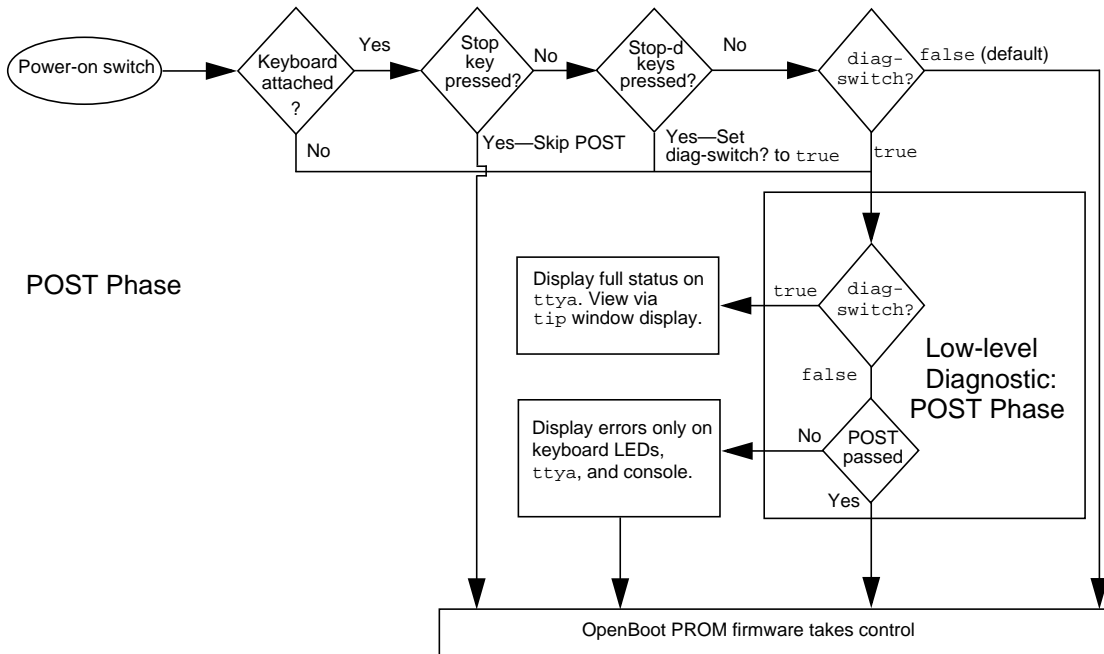
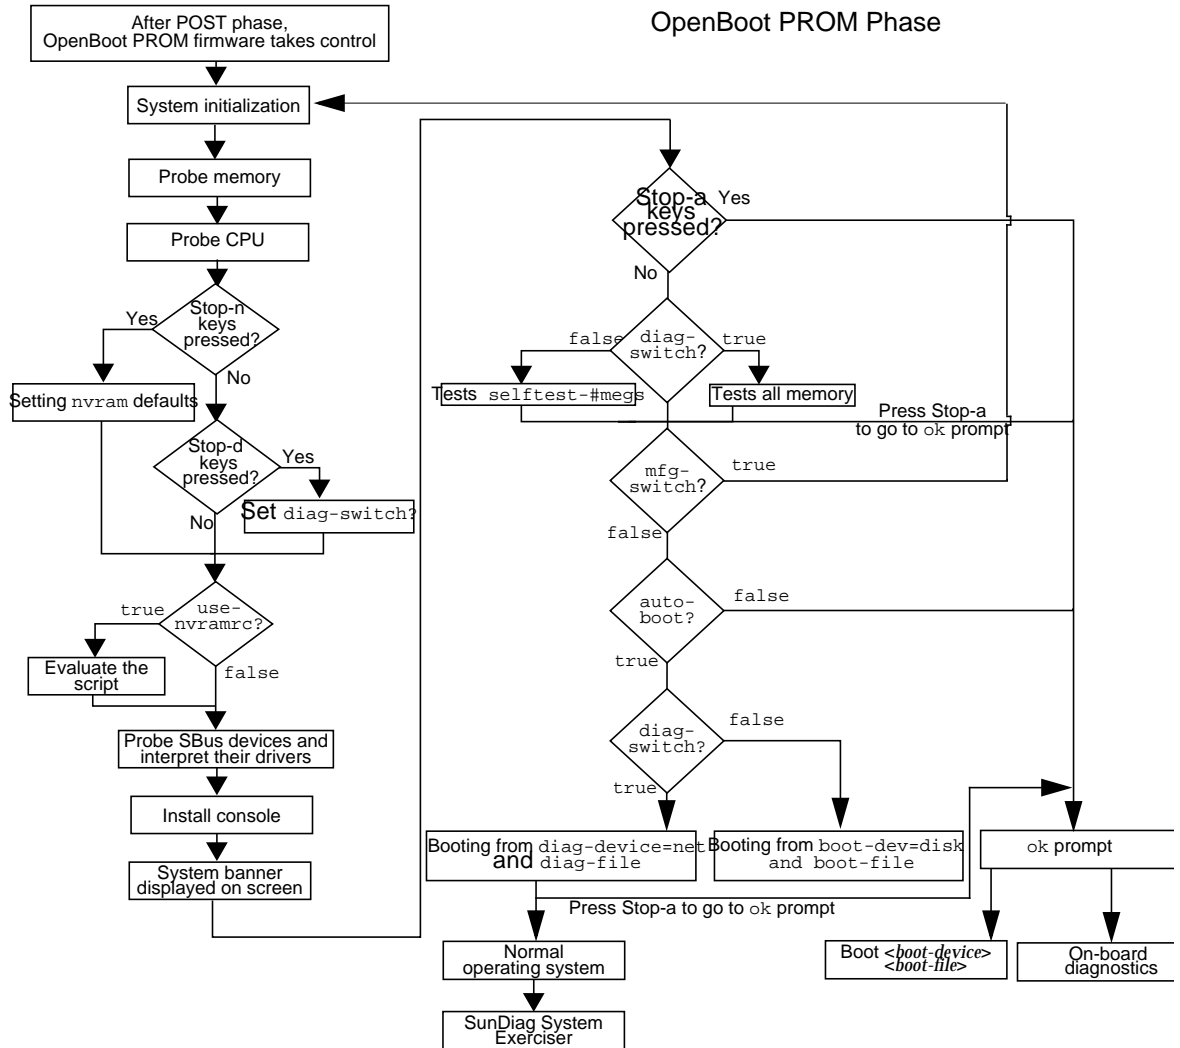

FIGURE 2-1 Factory-Defined Boot Sequence—POST Phase Settings and Tests
FIGURE 2-2 Factory-Defined Boot Sequence—OpenBoot PROM Phase Settings and Tests
The flowcharts in FIGURE 2-1 and FIGURE 2-2 outline the various diagnostics during a *factory-defined boot* operation under the control of the OpenBoot™ PROM (OBP) firmware.
FIGURE 2-1 (POST phase) and FIGURE 2-2 (OBP phase) depict the flow of OBP processing control, after power is switched on. Each figure diagrams the possible paths for processing control, and the switch settings for the factory-defined boot sequence. By examining the two flowcharts you can see where in the processing sequence other diagnostic tests are available or are encountered. If you need to run extended FORTH Diagnostics to take advantage of more extensive tests, see Appendix D.
- Install the console (see FIGURE 2-2)